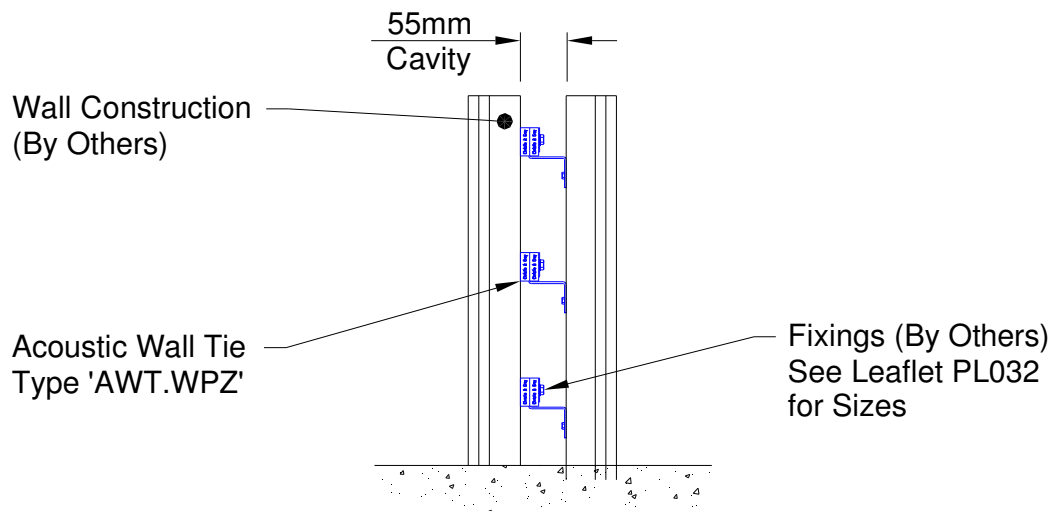

Figure 9
- h). Alternative fixing for wind post to internal partition walls with cavity width of 55mm nominal using acoustic wall tie type AWT.WPZ (See Figure 9). Note: Maximum 3mm compression of rubber components. Do NOT overtighten.